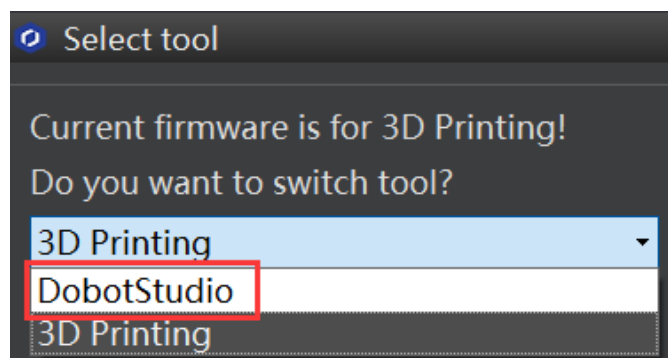

Figure 5.38 Select the DobotStudio to upgrade the Dobot firmware
1. Select **DobotStudio** to upgrade the Dobot firmware, as shown in Figure 5.38. The **Question** dialog box is displayed.